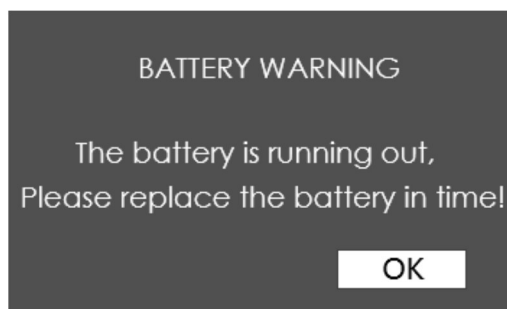

Figure 20 Battery Warning
- ☐ BAT ONLY: only display the battery indicator, and the illustrations are different according to the battery level as shown in the table below. When the battery capacity is running out, it will pop up a warning as shown in Figure 20, please replace the battery in time, and click OK to close this prompt. And it will display an AC indicator when powered by AC power input.